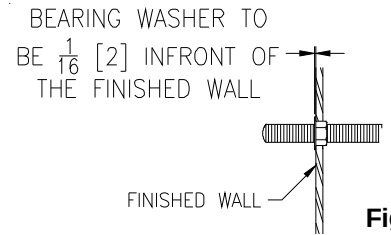

Fig. 18
16. Thread a backup nut and bearing washer onto each 5/8" rod. Adjust hardware so that the front surface of each flat washer is 1/16" in front of the finished wall See Fig. 18. All bearing washers must be in the same plane to support the fixture and prevent cracking.